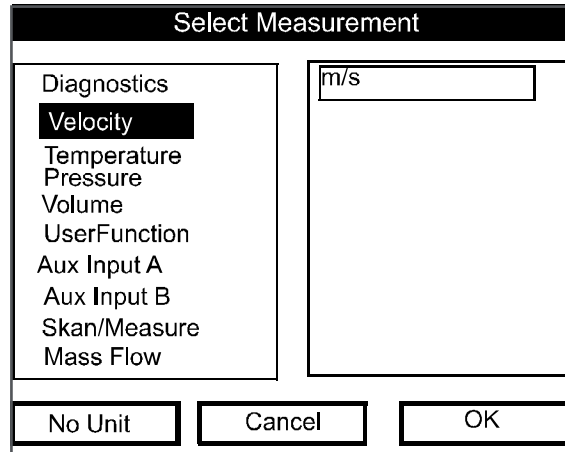

Figure 62: Data Source Selection Window
2. The next prompt asks you to select the analog output type from a number of choices, as shown in *Figure 62*
a. Press **[ENTER]** to open the data source selection window, shown in *Figure 62*.
e. Press **[F3]** (OK) to confirm your selection.